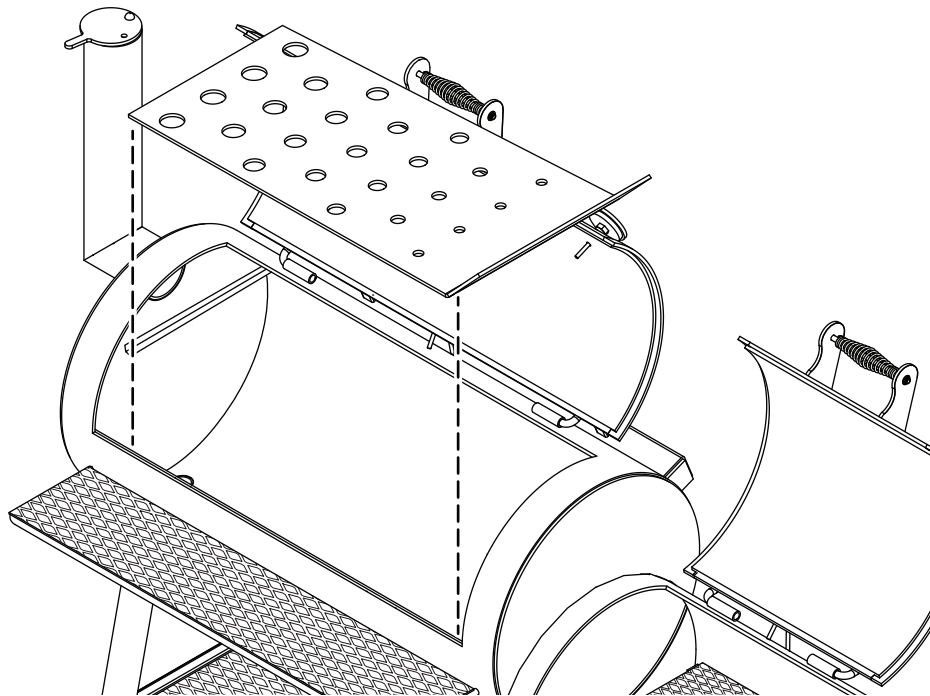

FIG 2
4. Install the heat management plate. See **FIG 2**.